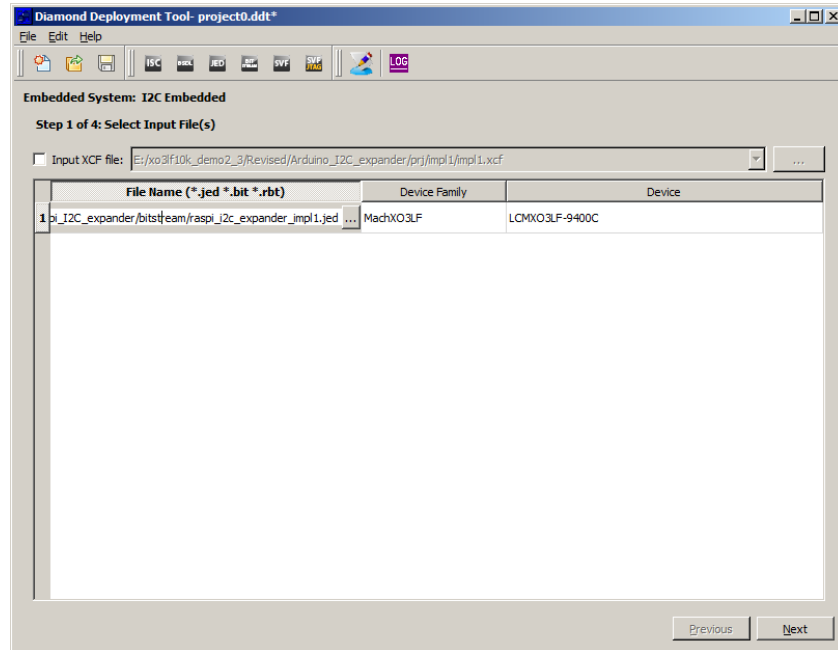

Figure 10.2. Selecting JEDEC File
2. Select a JEDEC file under .../bitstream folder (Figure 10.2). Click **Next** to continue.